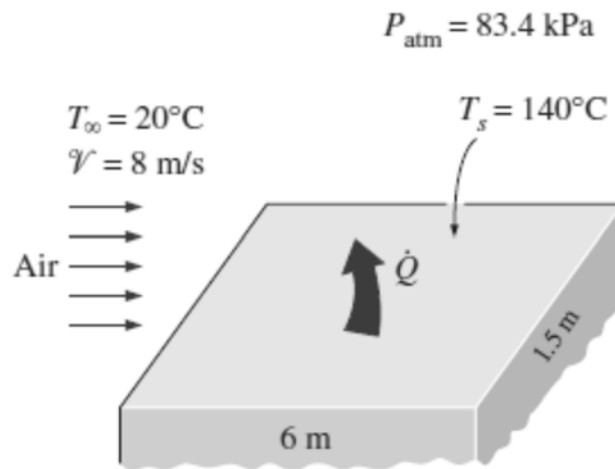

Figure Q4
- Q4.** The local atmospheric pressure in Bukit Larut, Taiping (elevation 1610 m), is 83.4 kPa. Air at this pressure and 20°C flows with a velocity of 8 m/s over a 1.5 m x 6 m flat plate whose temperature is 140°C (Figure Q4). Calculate the rate of heat transfer from the plate if the air flows parallel to the (a) 6-m-long side and (b) the 1.5-m side. Given, $k = 0.02953 \text{ W/m}^\circ\text{C}$, $\nu_{@1\text{atm}} = 2.079 \times 10^{-5} \text{ m}^2/\text{s}$, and $Pr = 0.7154$, and $R_{cr} = 5 \times 10^5$.